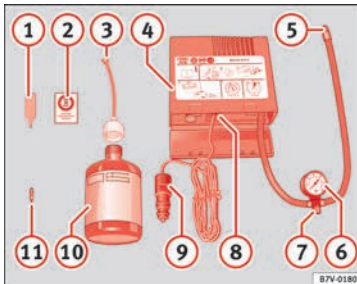

Fig. 60 Standard representation: Contents of the tyre mobility system.
- Unscrew the tyre valve cap and insert. Use the » **Fig. 60 1** tool to remove the insert. Place it on a clean surface.
- Shake the tyre sealant bottle vigorously » **Fig. 60 10**.
- Screw the inflator tube » **Fig. 60 3** into the sealant bottle. The bottle's seal will break automatically.
- Remove the lid from the filling tube » **Fig. 60 3** and screw the open end of the tube into the tyre valve.
- Place the insert back into the tyre valve using the tool » **Fig. 60 1**.
- Screw the compressor tyre inflator tube » **Fig. 60 5** into the tyre valve.
- Check that the air bleed screw is closed » **Fig. 60 7**.
- Insert the connector » **Fig. 60 9** into the vehicle's 12-volt socket » **page 138**.
- Turn the air compressor on with the ON/OFF switch » **Fig. 60 8**.